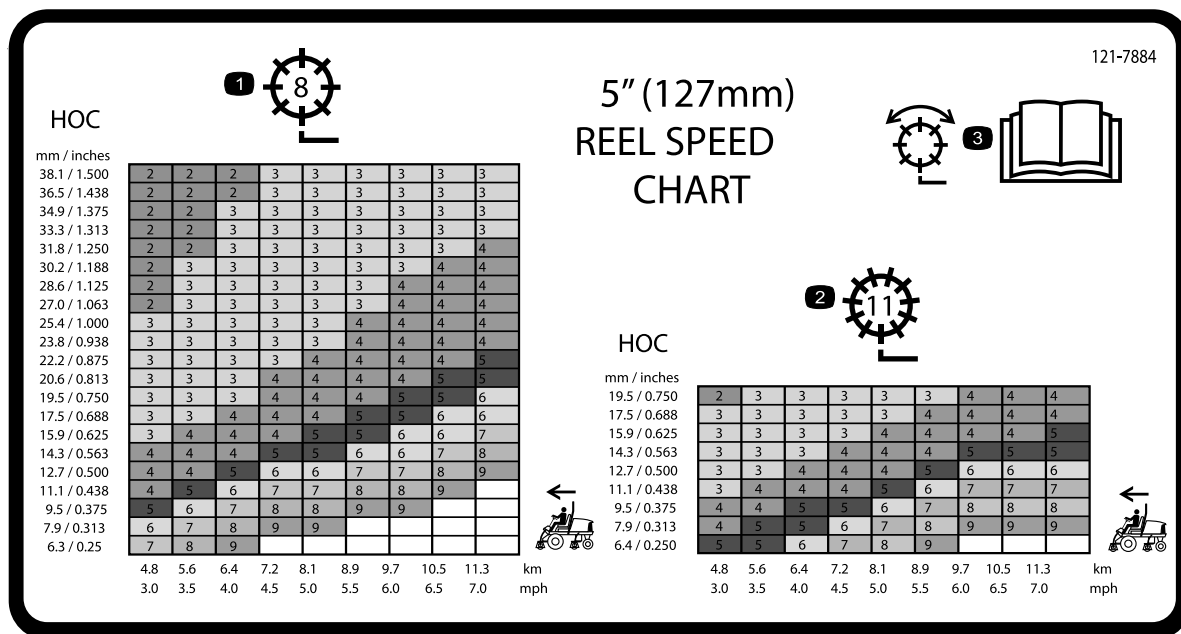

Figure 31
3. Use the graph on the reel speed chart decal (Figure 31), to determine the proper reel speed setting.